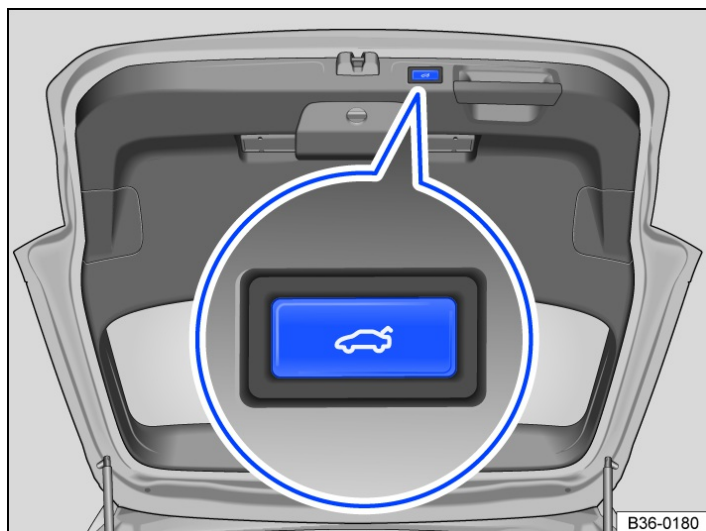

Fig. 1 In the open trunk lid: Button for power closing the trunk lid.
1. Press the button in the trunk lid when it is open → *fig. 1*.